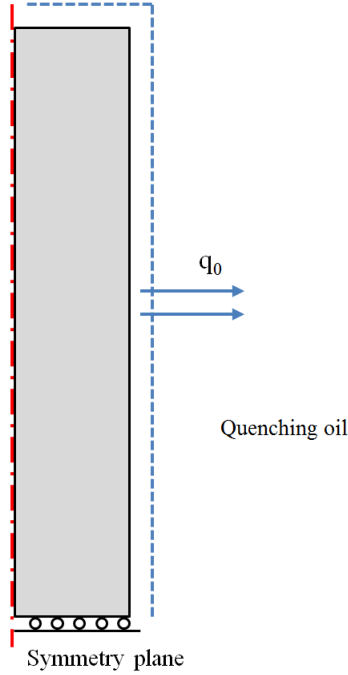

Figure 1: The axisymmetric model of the steel billet.
- 1 右键单击点结果图 1 并选择复制粘贴。
### 点结果图 1
- 1 在模型开发器窗口中，单击点结果图 1。
#### 线结果图 1
The steel billet is a solid cylinder that is 20 cm in length and with a radius of 2 cm. The billet is quenched in oil, uniformly across its boundary, through a temperature-dependent heat-transfer coefficient. Because of symmetries, only half the billet is considered, in 2D axisymmetry. The billet is shown in Figure 1. Thermal and mechanical boundary conditions are discussed below.